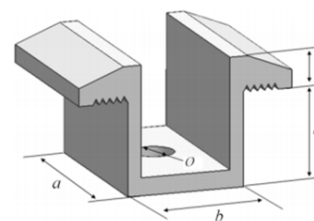
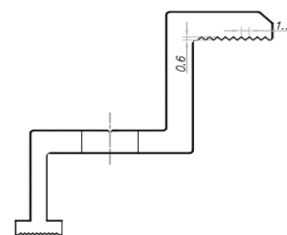

Fig.6 Schematic diagram of the mid clamp
Fig. 7 Schematic cross section of the fringe clamp
① Place the module on the two supporting rails (not provided by Energizer Solar) which should be made with stainless material and treated with an anti-corrosion process (e.g., hot dipped galvanizing). Each PV module needs at least four clamps to be fixed. The module clamps should not come into contact with the glass and should not deform the frame, otherwise they may cause module damage.
② Be sure to avoid shadowing effects from the module clamps. Weep holes on the module frame must not be closed or obscured by the clamps. The clamp must have at least 8mm but no more than 11mm overlap with the frame of the module (The clamp section can be changed under the premise of ensuring reliable installation).
③ The top surface of the rail contacted with module frame should be equipped with grooves compatible with an M8 bolt.
④ If the grooves are not provided, holes of a suitable diameter may need to be drilled to allow bolts to attach to the rail at the same locations as mentioned above.
⑤ Ensure that the mounting sequence of each clamp is in the order of flat washer, spring washer and nut.
⑥ There are two types of clamps, the mid clamp shown in Fig. 6 and the fringe clamp shown in Fig. 7 and Fig. 8. The mid clamp has dimensions of $a \geq 40$ mm, $b \geq 26$ mm, $c \geq 5$ mm, $d \geq 28$ mm, $\varnothing = 9$ mm. For module of 182/210mm-wafer, the size of mid and fringe clamp must meet $a \geq 60$ mm. The tightening torque is suggested to be 17~23Nm for Class 8.8 screw and bolts.
⑦ To prevent modules from coming off the fixed device after installation, it is suggested to choose fringe and mid clamps and make contact with the A side of the frame with groove patterns. Suggest to have 9 patterns with a space between 2 adjacent patterns of 1.2mm and a depth of 0.6mm, as shown in figure 7.